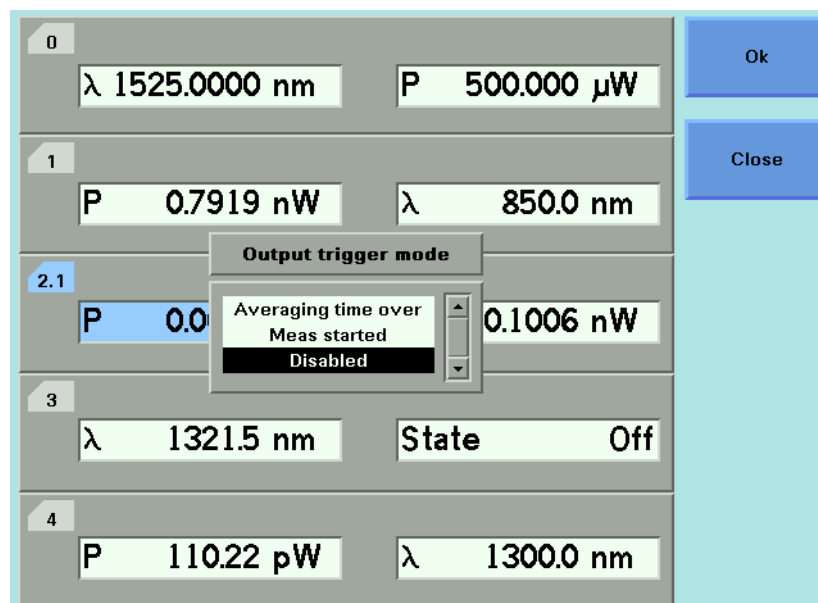

Figure 57 Output Trigger Mode
- 3 Move to *<Output Trigger Mode>*, by using the cursor key, and press *Enter*. You will see the screen in Figure 57.